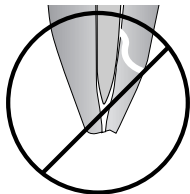

Fig 1
**2.** Fit the master gutta percha point (We recommend the use of EDS' Medium Gutta Percha Points. Cat. No 5000-M for the SafeSider Technique) and verify that it goes to working length. It may be necessary to trim the apical portion in order to obtain the snug apical fit indicated by 'tug-back.' This process is depicted in figures 1, 2, and 3.